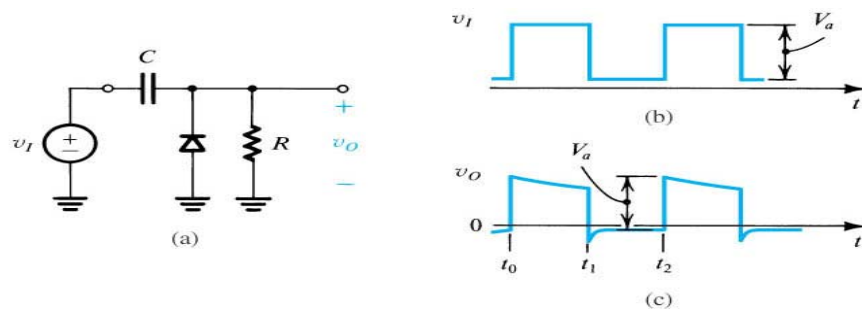

Figure 5.28: The dc restorer with a load resistor R .
- Figure 5.28 shows the example of dc restorer with a load resistor R .